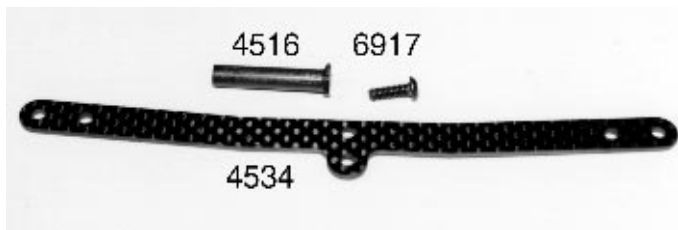

Fig. 29
□ **Figs. 29, 30 & 31** Take out the #4534 graphite rear chassis brace. Also remove the #4516 plastic dampener post and one #6917 4-40 x 3/8" BHSScrew. Look at the chassis brace. There are two holes at the center area. One along the bar portion and the other on a small section protruding from the center. Secure the plastic dampener post to the hole in the bar portion of the brace using the #6917 screw. Use #242 Loctite to secure the damper post to the screw. This way it cannot come unthreaded when you remove the top screw in the post for normal maintenance or adjustments.